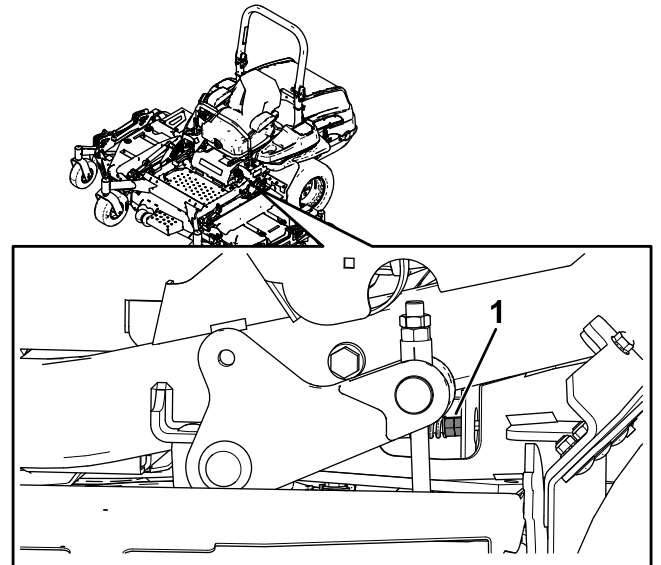

Figure 66
10. Adjust the pump-control-rod lengths by rotating the double nuts on the rod in the appropriate direction until the wheels slightly creep in reverse (Figure 66).